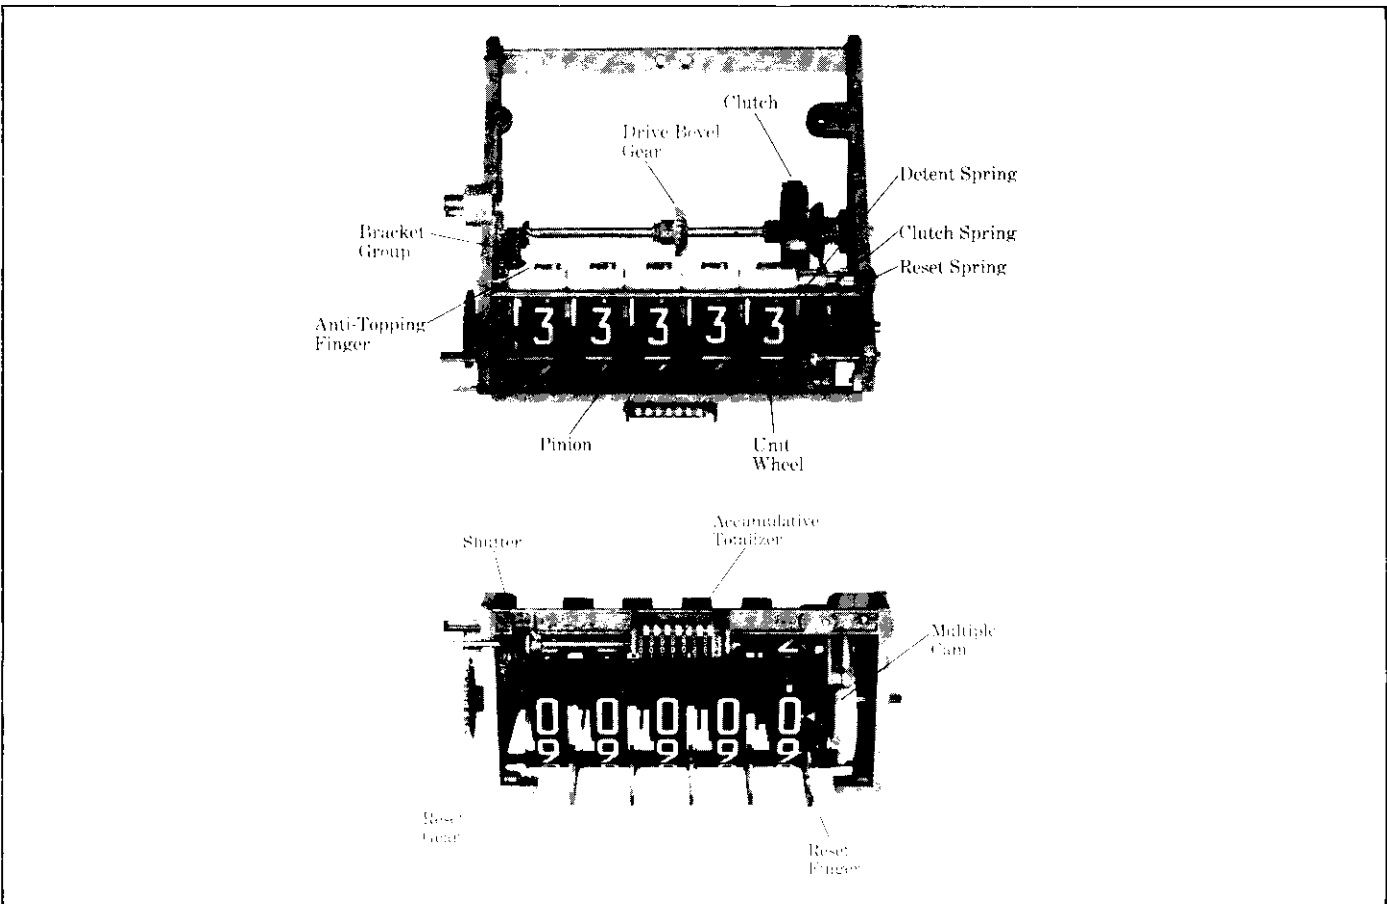

Figure 5. Internal View of Series 7887 Meter Register (Series 7886 High-Capacity Meter Register is similar).
2. Operational. The Meter Register is operated by a drive shaft connected to a group of gears on the gear plate which converts the drive revolutions to the appropriate ratio. The output bevel gear of the group drives a bevel gear, Figure 5, which is connected to the drive shaft and clutch assembly. In rotating, this shaft drives a gear on the
2. Operational. The Meter Register is operated by a drive shaft connected to a group of gears on the gear plate which converts the drive revolutions to the appropriate ratio. The output bevel gear of the group drives a bevel gear, Figure 5, which is connected to the drive shaft and clutch assembly. In rotating, this shaft drives a gear on the clutch assembly which in turn drives a gear on the right (unit) wheel assembly. Revolutions are then accumulated on the wheels. In addition, this rotating shaft also drives the bracket group connected to the accumulative totalizer shaft, thus both displays are driven from the same source, assuring accurate recording of information. During the reset operation, the clutch is disconnected from the drive shaft, a shutter moves into place covering the display wheels and reset fingers engage heart shaped cams on the individual wheels to move them back to a zero position. In addition, a set of anti-topping fingers engages the wheels to prevent jamming. At the completion of reset, the display wheels will read all zeros, and the shutter will rise to the normal operating position. The clutch will engage the drive shaft to transfer the information from the next delivery. The totalizer wheels will be unaffected by this reset operation, thus displaying an accurate measure of the accumulated totals of many deliveries.